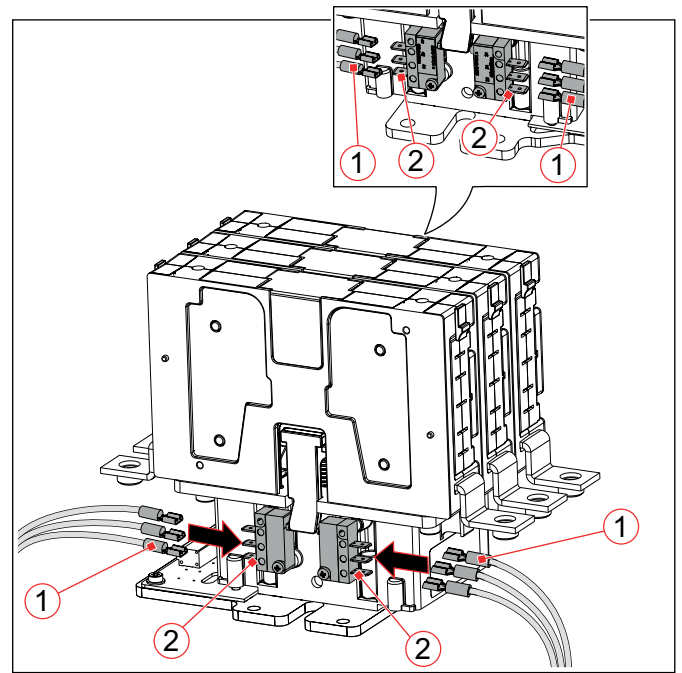
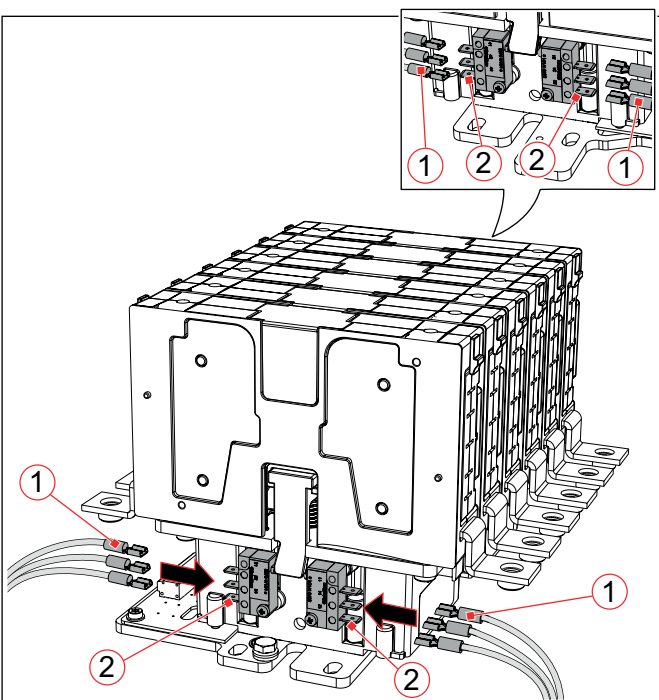

Fig. 20: Connecting the auxiliary switches (small coil drives)
Fig. 19: Connecting the auxiliary switches (wide coil drives)
- ▶ Move and route the control wires and receptacles only in the direction of plugging, see *Fig. 19* to *Fig. 20*.